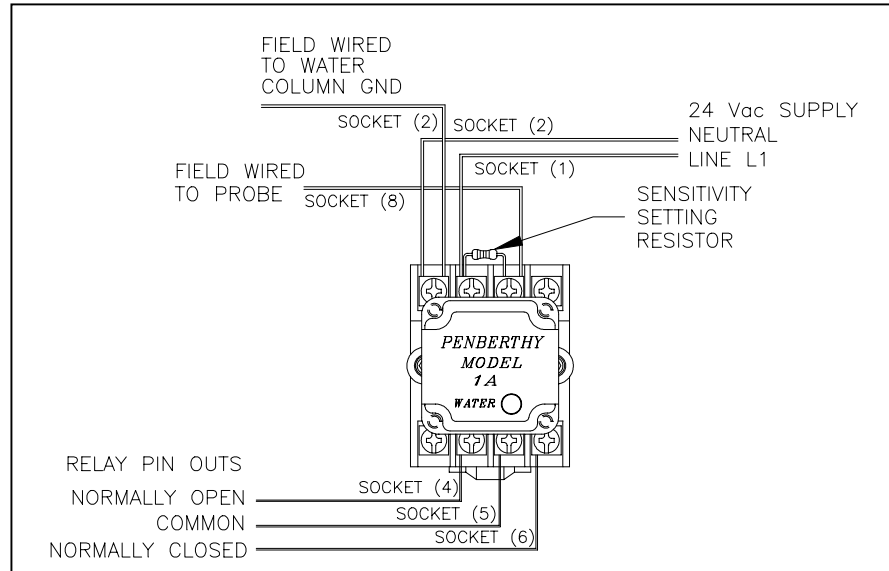

Figure 3 - Wiring detail - Electronic Module
If a 24 Vac unit was specified (refer to Fig 3):
2.8.3 Control Output (See Fig 3)
Inspect the module to ensure that all electrical connections are made and properly protected. The sensitivity required for the water conductivity range to be detected should have been specified when the system was ordered, if not, the default sensitivity of 10 μ S was supplied. If the sensitivity is not correct, proper replacement resistors can be obtained by contacting TV&C – Prophetstown with the conductivity of water used. The proper resistor is then connected between terminals 1 & 8. (See Fig 3).
Line Power:	Refer to section 2.8.2 and Figures 3, 4 and 5